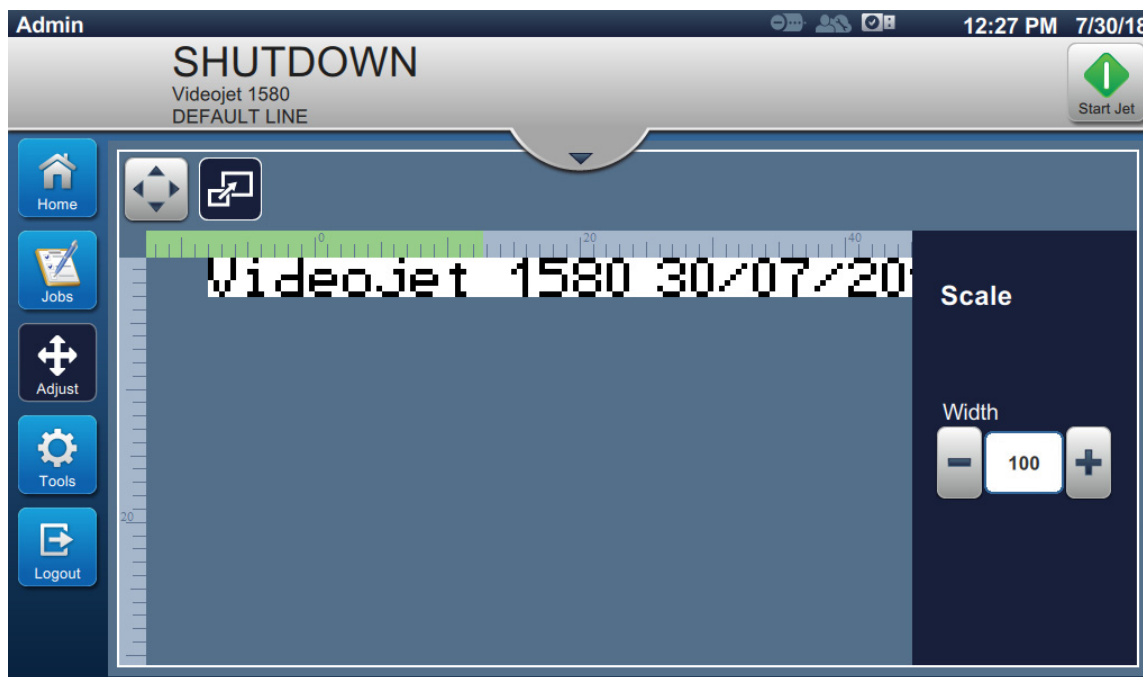

Figure 4-10: Adjust\_Scale
1. Touch the  button and the current scale divider value appears as shown in Figure 4-10.